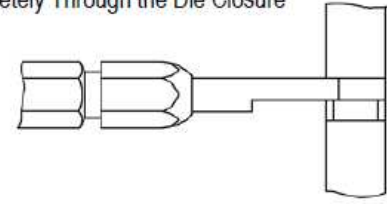

Figure 9b
4. Try to insert the NO-GO member. **The NO-GO member may enter partially, but must NOT pass completely through the die closure** (see Figure 9b).